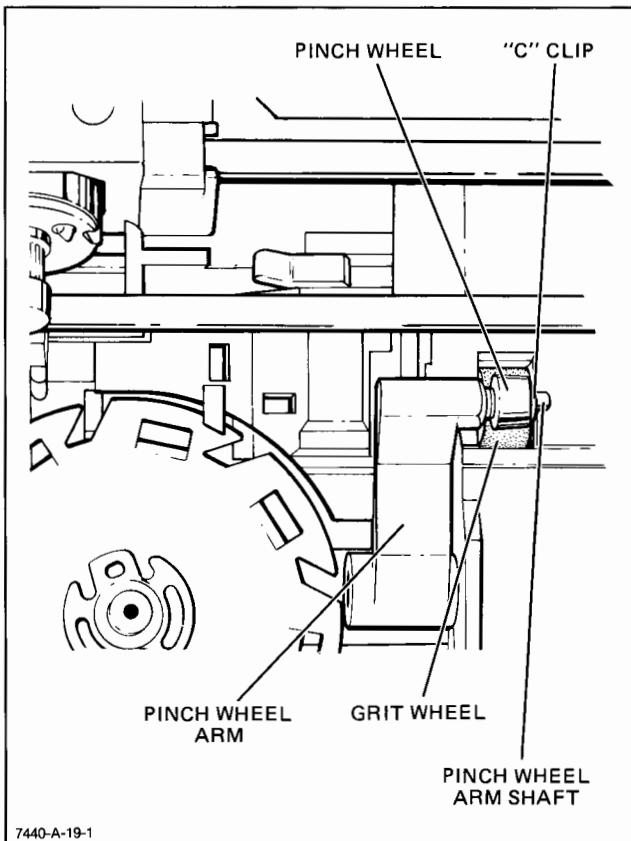

Figure 6-10. Pinch Wheel Removal
To prevent damage to the pinch wheel, lift the pinch wheel arm on which it is mounted and slide a thick piece of paper or plastic (e.g. credit card) between the pinch wheel and the grit wheel. See Figure 6-10.
- d. Using long nose pliers, gently remove the "C" clip from the pinch wheel arm shaft. See Figure 6-10.